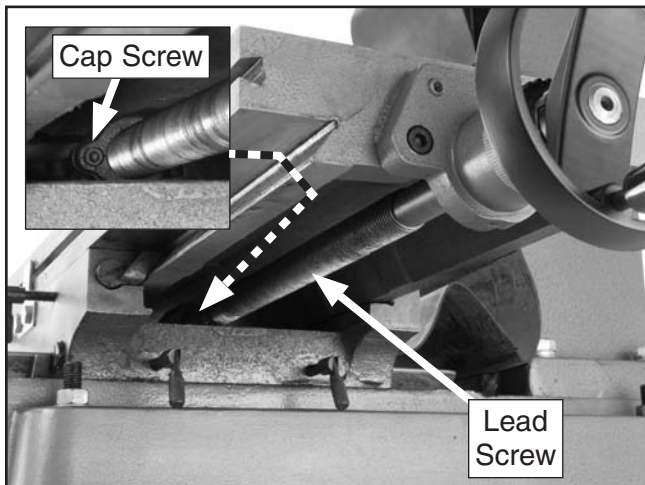

Figure 44. Halfnut adjustment cap screw.
3. Rotate the Y-axis handwheel so the table is positioned to the right and you have access to the lead screw halfnut cap screws (**Figure 44**).
4. Insert a 4mm hex wrench into the halfnut cap screw (**Figure 44**), and tighten or loosen the screw until the handwheel backlash is approximately 0.003" as shown by the dial.
3. Rotate the Y-axis handwheel so the table is positioned to the right and you have access to the lead screw half nut capscrews (**Figure 44**).